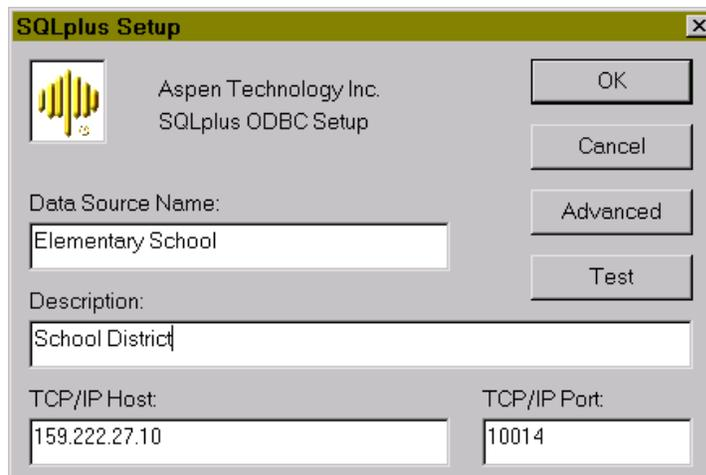

Figure A-7: SQLplus ODBC Setup Screen for AspenTech M-Historian Database
5. Select the driver for the data source you are defining a connection for and click Finish. The ODBC Setup screen for the driver you select appears. Figure A-7 shows the SQLplus Setup screen that appears when an AspenTech driver is selected.
- Fill in the fields according to Table A-2 and click OK. The SQLplus ODBC Setup screen reappears (Figure A-7).